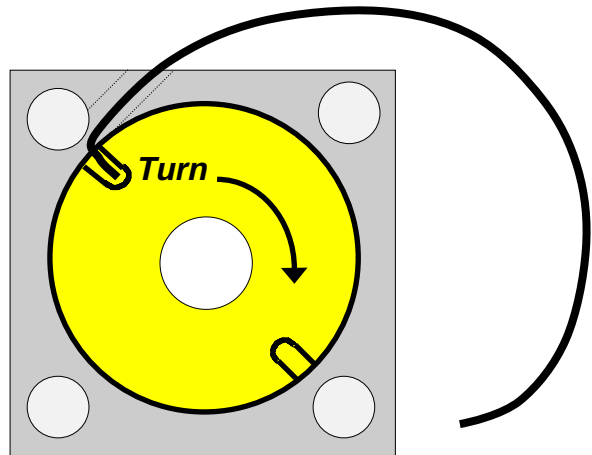

Figure 4
2. Use GED spanner wrench (T00023) to turn gold endcap clockwise. The keeper ring will start to come out of the small hole in the side of the air cylinder. Continue turning clockwise until the keeper ring is free from the gold endcap. See Figure 4.